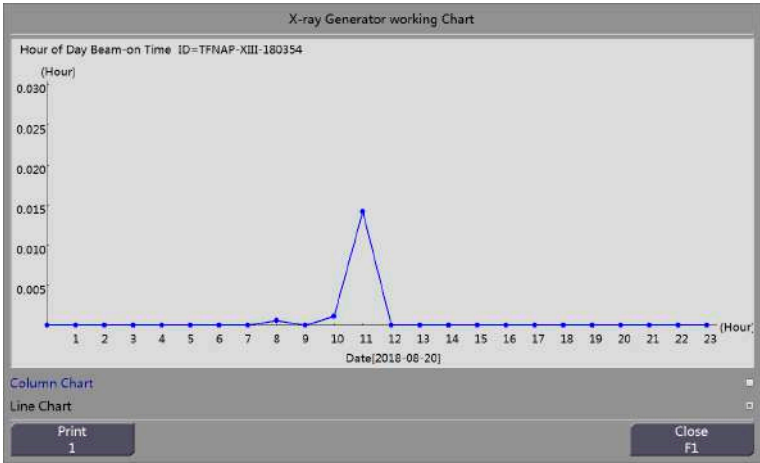
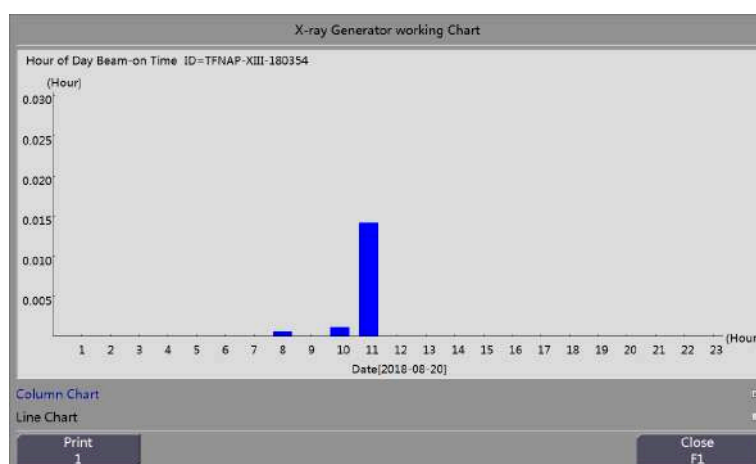

Figure 15-16 X-Ray Generator Working Chart (Line Chart)
Figure 15-17 X-Ray Generator Working Chart (Column Chart)
Step 4 The selected records can be displayed in a line chart or column chart to provide an intuitive view of the running status of the equipment, as shown in Figure 15-16 and Figure 15-17.